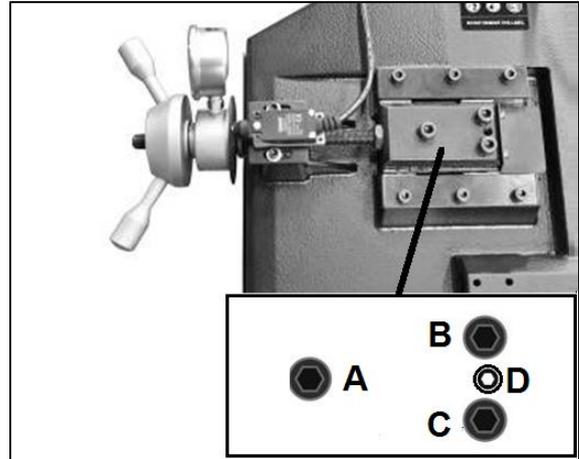

Figure 8-5: Blade Tracking Adjustment
- Loosen the hex socket screws (A, B, C, Fig 8-5)